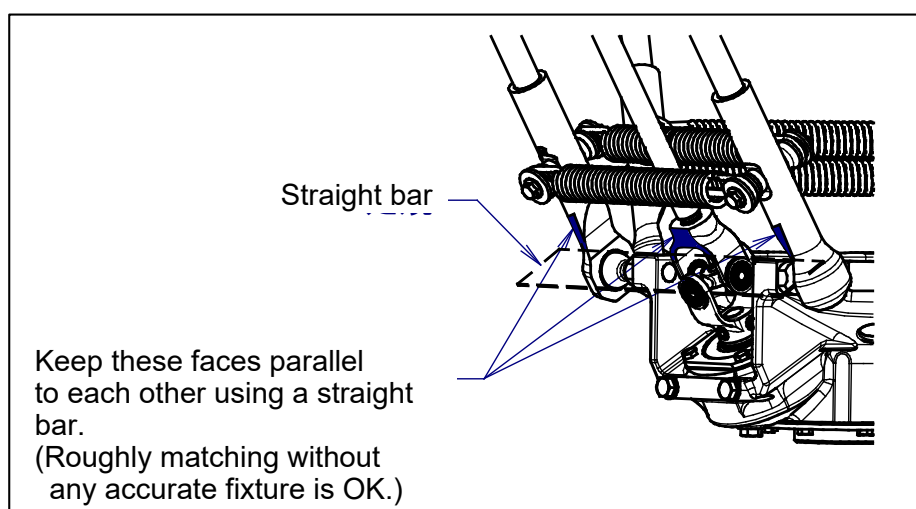

Fig.7.3 (a) Universal joint phase calibration
- 11 Calibrate universal joint phase. Jog J4-axis to the position for universal joint phase calibration. (See Fig.7.3 (a))